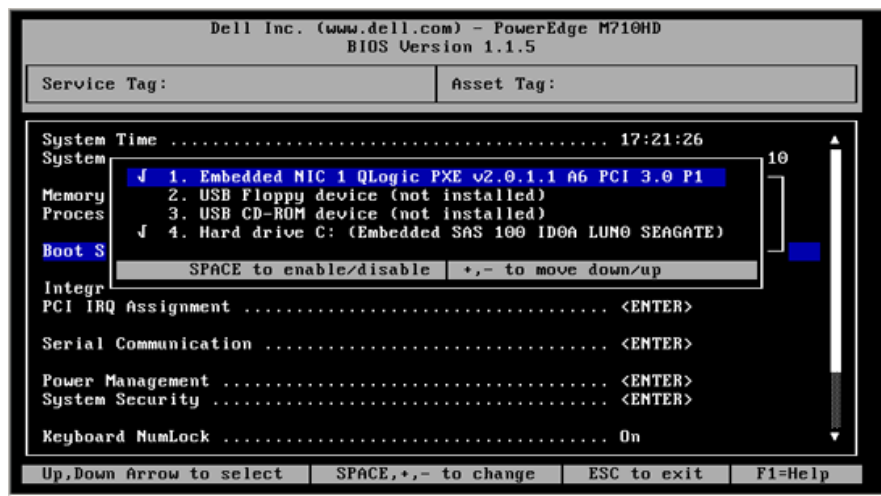

Figure 6: Embedded NIC 1 QLogic PXE
13. Select the **Embedded NIC 1 QLogic PXE...** entry, and then press the UP ARROW key to move this entry to the first position (Figure 6).